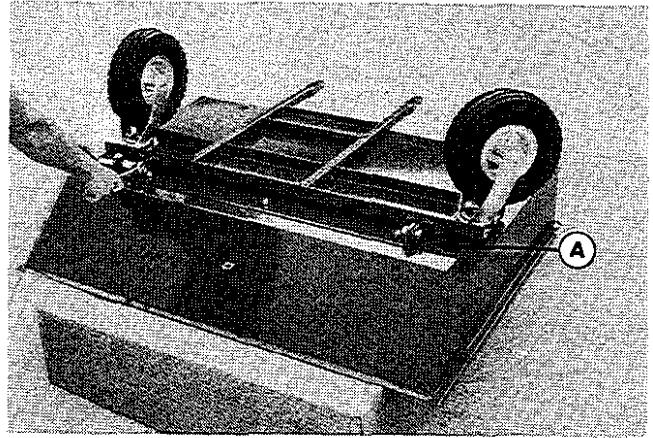

Figure 4
3. Turn box upside down and install the frame to the U-bracket (figure 4). Align the two prong end (A) in the frame with the ends of the U-bracket and secure with two  $1/2$ - $13 \times 1-1/4$  hex bolts and locknuts. **DO NOT** overtighten the locknuts, since the box pivots at this point for dumping.